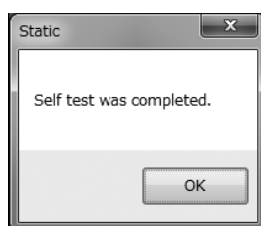
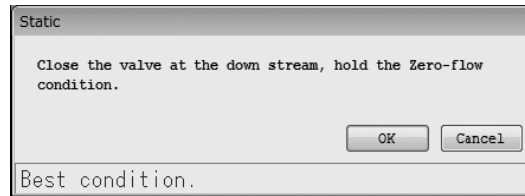

Fig.120
Fig.121
- ⑤ Click "OK" to execute the checks. Once they are finished, a message box (Fig. 120) will be displayed. Click the "OK" button to complete the static device installation state check. The results are displayed as shown in Fig. 121.